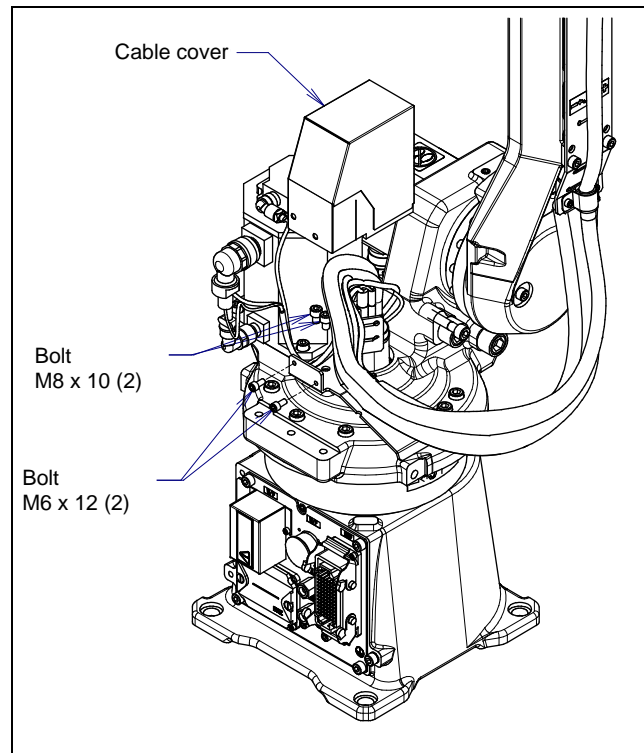

Fig. 8.3 (i) Replacing cable kit (J2 base part)
- 20 Remove M8 x 10 bolts (4 pcs) that fasten J1 connector plate to J1 base and remove J1 connector plate from J1 base (Refer to Fig. 8.3 (j)).